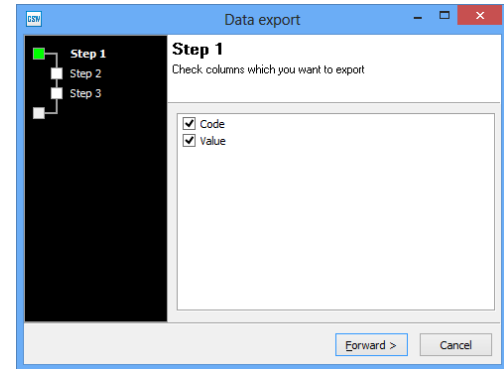

Fig. 20 Data export
2. In table of customer's window select "Export" command. Export wizard will be open as it is shown on Fig. 20